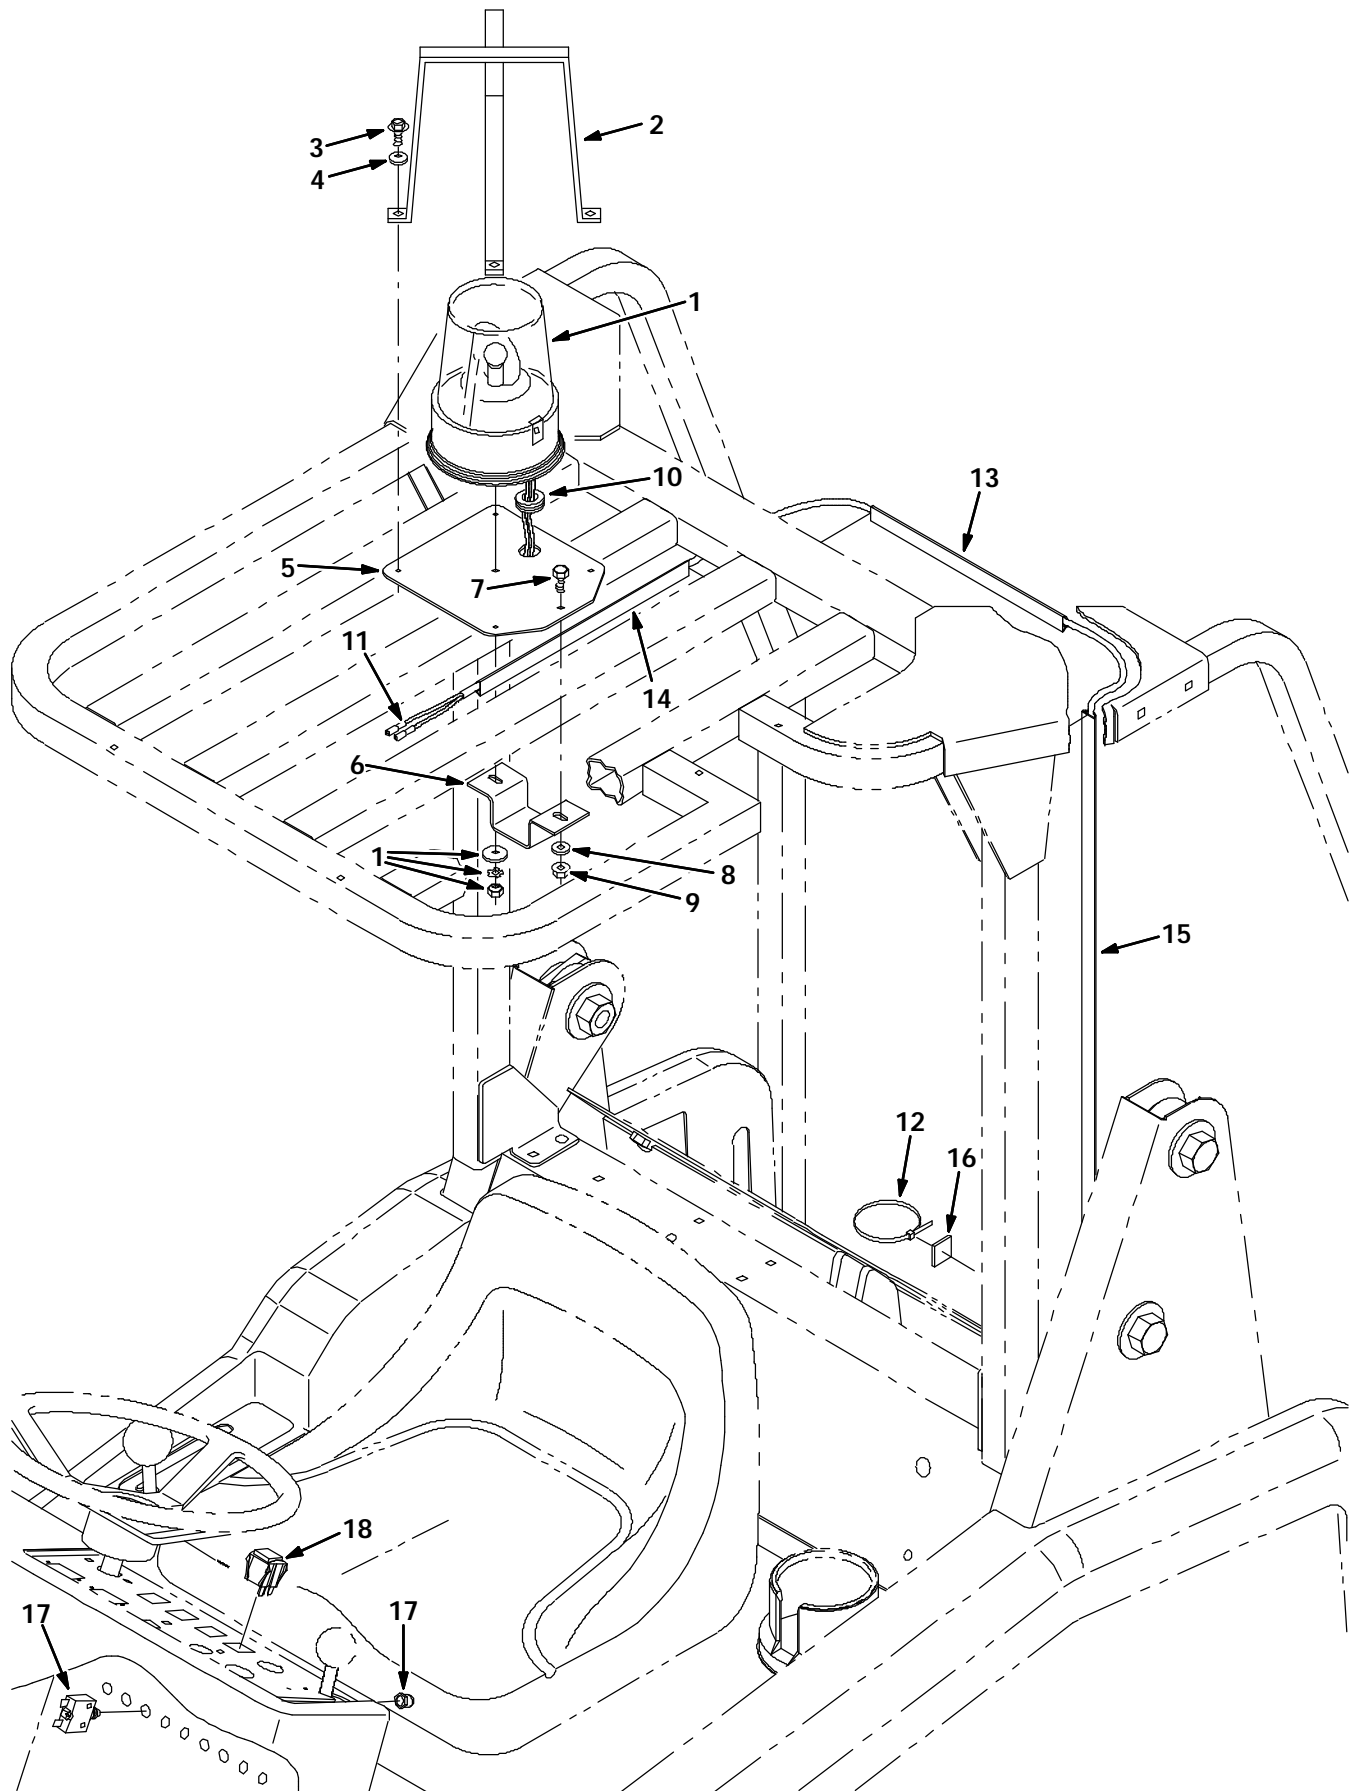

FIG. 1 - REVOLVING LIGHT KIT, OHG INSTALLATION
(Refer to FIG. 1 and 2)
2. Install the new circuit breaker (17) in the panel. Wire the circuit breaker (17) into the main harness. (Refer to FIG. 1 and 2)
3. Remove the standard light switch in the control panel, and unplug it from the wiring harness. (Refer to FIG. 1 and 2)
4. Plug the new switch (18) into the wiring harness, and snap it into place in the control panel. (Refer to FIG. 1 and 2)
5. Remove the self adhesive backing strips from the vinyl duct work, and install the three pieces of vinyl duct work (13, 14 and 15) into the positions shown in figure 1. (Refer to FIG. 1)
6. Check that the grommet (10) is secured in the light mounting plate (5). (Refer to FIG. 1)
7. Run the light wiring connections through the grommet in the mounting plate (5), and connect the light (1) to the light harness (11). Connect the light harness (11) to the main wiring harness. (Refer to FIG. 1 and 2)
8. Assemble the light (1) and mounting plate (5) to the overhead guard with the mounting channel (6), light mounting hardware (1), hex screw (7), washer (8), and hex nut (9). (Refer to FIG. 1)
9. Starting at the light, press the wiring harness into the vinyl duct work (13, 14 and 15), working down to the base of the overhead guard. (Refer to FIG. 1)
10. Bundle any excess harness (11) with the cable tie (12), and adhere to the machine with the cable tie mount (16). (Refer to FIG. 1)
11. Turn the machine power on, and check warning light (1) for proper operation.
12. Mount the lamp guard (2) to the mounting plate (5) with four hex screws (3) and washers(4). (Refer to FIG. 1)